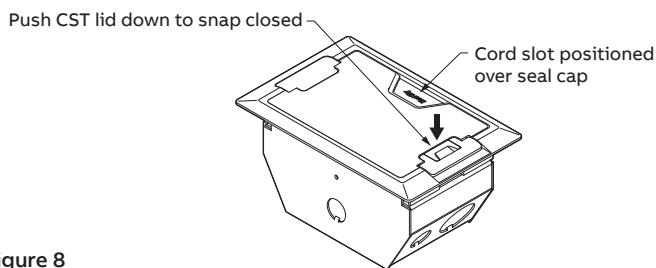

Figure 8
3. Follow Steps 4 and 5 in Procedure A (See Figure 8).